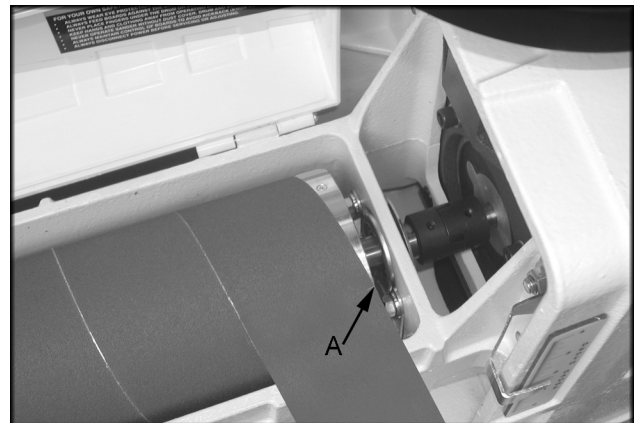

Fig. 10
2. Mark the trailing end of the strip where it crosses the inboard end of drum (Fig. 10, Item A).